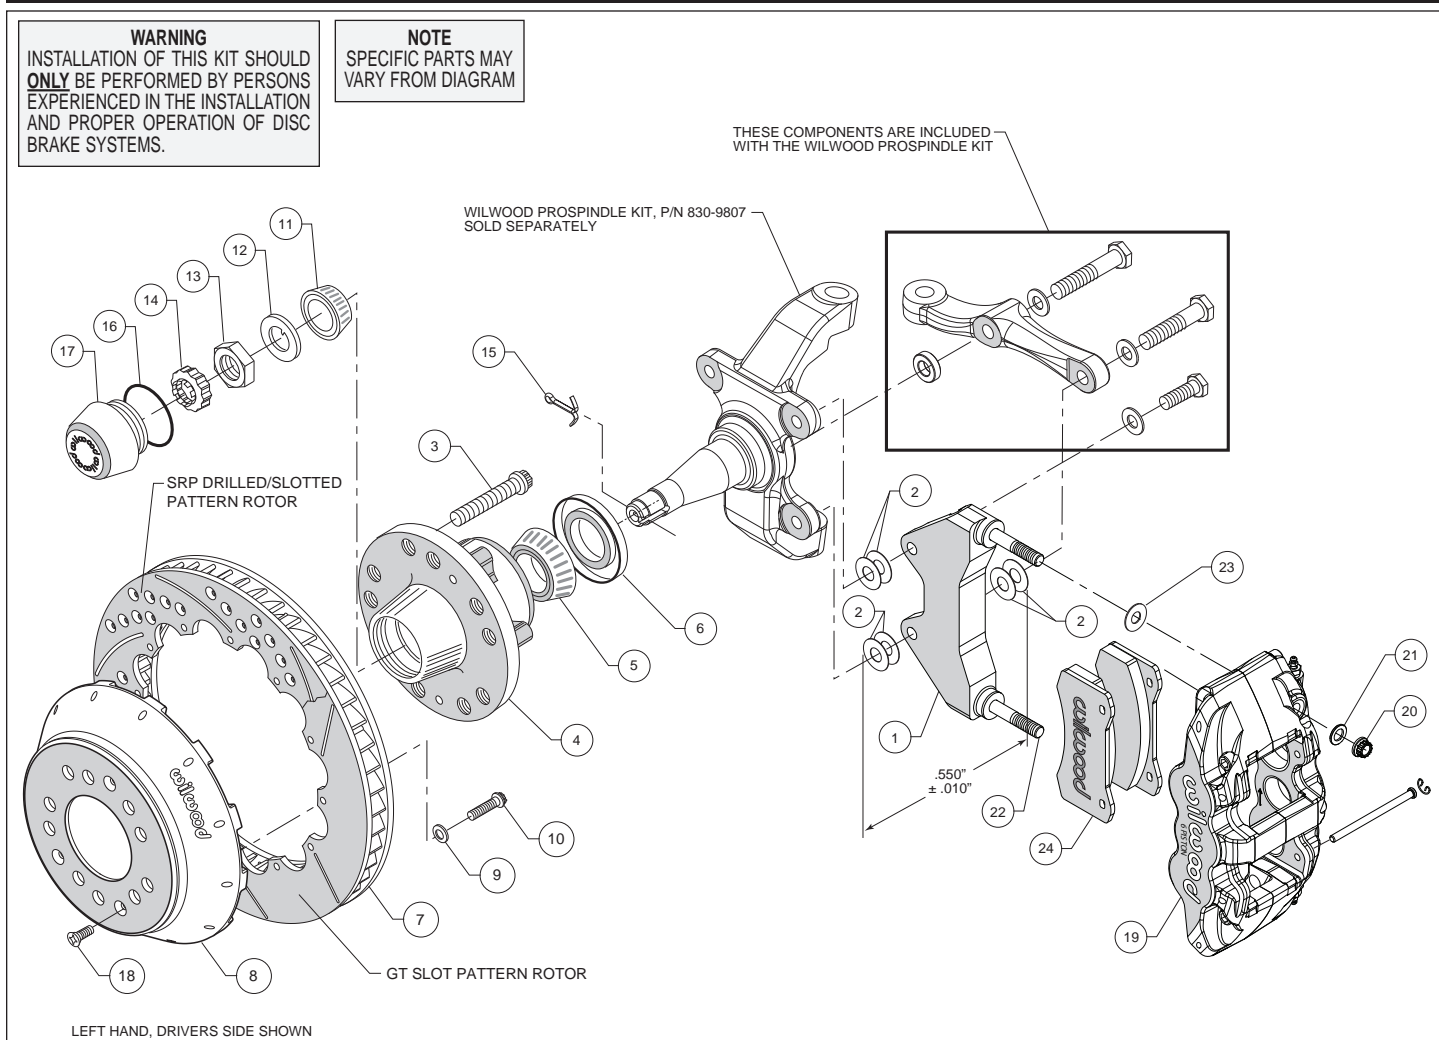

Figure 1. Typical Installation Configuration
- Install the bracket on the inboard side of the spindle by sliding the 1.25" long bolt from the ProSpindle kit through a flat washer, also from the ProSpindle kit, through the top hole of the caliper mounting bracket (1) and into the upper rear spindle mounting ear hole, do not tighten at this time. Use two thin shims (2) between the bracket and spindle during initial trial fitting.
- Slide the 2.00" long bolt from the ProSpindle kit through a flat washer, through the rear (thinner end) hole on the steering arm, through two shim washers (2), through bottom hole of mounting bracket (1), through another two shim washers (2), and finally into the lower rear spindle mounting hole. The bracket (1) is positioned between the steering arm and the spindle for the bottom bolt installation. The bracket and shim washers, for the lower rear mounting must be a thickness of  $.550 \pm .010"$ . Again, do not tighten.
- Install wheel studs (3) into the hub (4). Torque to 77 ft-lb. **NOTE:** *There are two lug patterns of five holes each in the hub (5 x 4.50 and 5 x 4.75).* Make sure of the correct hole pattern for the wheel application before installing the studs into the hub.
- With the larger I.D. side of the rotor (7) facing away from the hat (8), bolt the rotor (7) to the hat (8) through the backside of the rotor using washers (9) and bolts (10) provided in the configuration pictured in figure 1. Using an alternating sequence, apply red *Loctite*® 271 to the threads and torque bolts to 155 **in-lb**. For an added measure of security, the bolts may be safety wired using standard 0.032 inch diameter stainless steel safety wire as shown in Figure 3. Please refer to Wilwood's data sheet DS-386 (available at [www.wilwood.com/Pdf/DataSheets/ds386.pdf](http://www.wilwood.com/Pdf/DataSheets/ds386.pdf)) for complete safety wire installation instructions.
- Remove the two pad retaining pins from the caliper (19) by carefully popping out the pin retaining clips and sliding out the pins. Insert the brake pads (24) into the caliper from the bottom, Figure 1. With the friction material facing the rotor, secure the brake pads in place with the pad retaining pins and clips. Reinstall the caliper onto the caliper mounting bracket and temporarily tighten the lock nuts. Check that the top of the brake pad is flush with the outside diameter of the rotor. If not, adjust by adding or subtracting shims (23) between the caliper and the bracket.
- Remove the lug nuts that were holding the hat in place. Install three flat head socket head screws (18) through the small holes in the hat (8) and torque to 85 **in-lb**. Install the wheel and torque the lug nuts to manufacturer's specification. Check to see that the wheel rotates freely without interference.
- Once all clearances have been checked, remove the wheel, caliper, hat, and rotor from the spindle and hub. Secure the caliper mounting bracket (1) to the spindle using red *Loctite*® 271 on the bolt threads. Torque the ProSpindle supplied bolts to 47 ft-lbs. Reinstall the hat and rotor assembly and again use several lug nuts to hold it in place. Reinstall the caliper, torque the caliper nuts (20) to 47 ft-lbs.